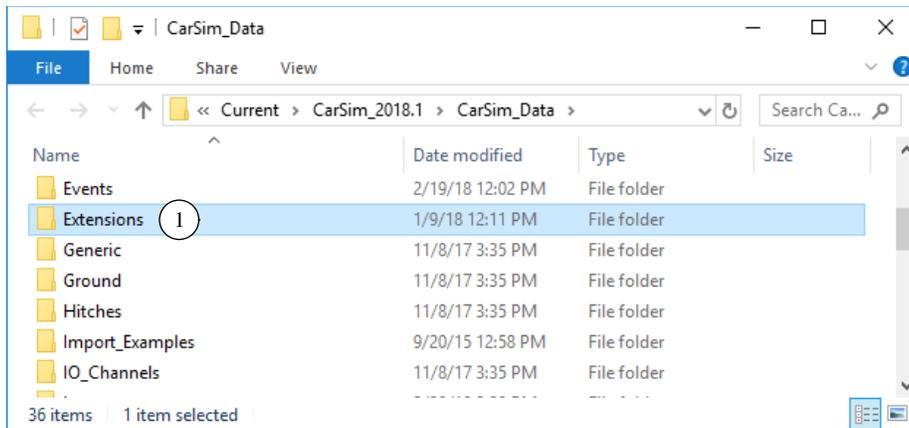

Figure 6. Windows view of VS database folder contents, including the folder named Extensions.
2. Click on the pathname (1). This will bring up a view of the database folder in Windows (Figure 6).